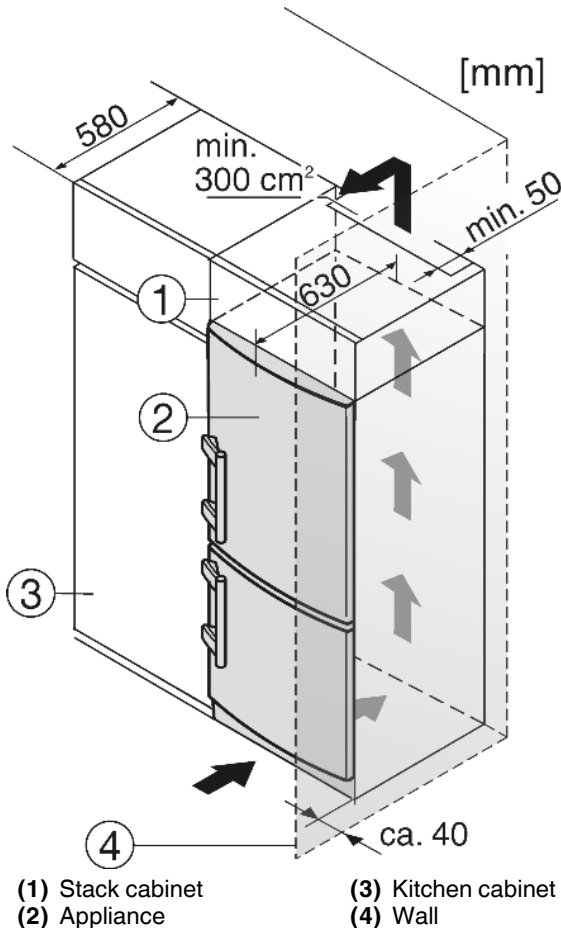

Fig. 12
- (1) Stack cabinet
- (2) Appliance
- (3) Kitchen cabinet
- (4) Wall
The appliance can be inserted into a row of kitchen units. To match the appliance Fig. 12 (2) to the height of the row of units, a suitable stack cabinet Fig. 12 (1) can be fitted above the appliance.
When inserting the appliance into a row of standard kitchen units (max. depth 580 mm), the appliance can be installed directly next to the kitchen unit Fig. 12 (3). The appliance door projects relative to the front of the kitchen unit by 34 mm at the side and by 50 mm in the middle of the appliance. It can be opened and closed perfectly as a result.
If the appliance is installed with the hinges next to a wall Fig. 12 (4), the distance between appliance and wall has to be at least 40 mm. This corresponds to the projection of the handle when the door is open.